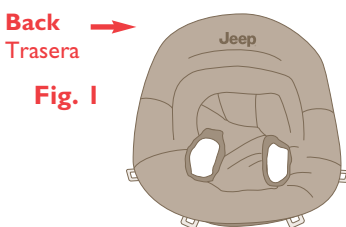

Fig. 1
Step 1. Push crotch portion of seat pad inside out to form seat, so that the fabric is on inside of seat pad (Figure 1).
Step 1. Locate the 4 holes in the front of the tray. Insert the back tabs into their designated holes and push down until they snap securely (Figure 1).
Step 1. Legs are marked A, B, C or D (Figure 1). Locate leg marked A.
Step 1. Find corresponding wheel and align it with its designated place on the base (A-A, B-B, C-C, D-D). Attach the wheels to the base so that the wheel faces out. Push down until they snap into the base (Figure 1).
Step 2. Make sure to align the legs with base by their corresponding letters (A, B, C, D) (Figure 1).